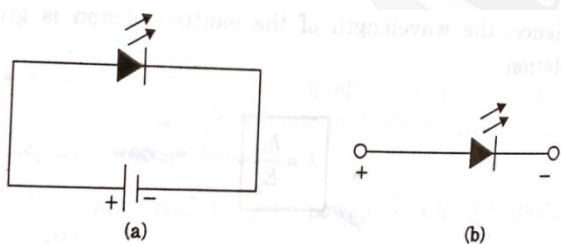

Fig. 4.17 Circuit and symbol of LED
6. Figure 4.17 shows the circuit and symbol of LED.